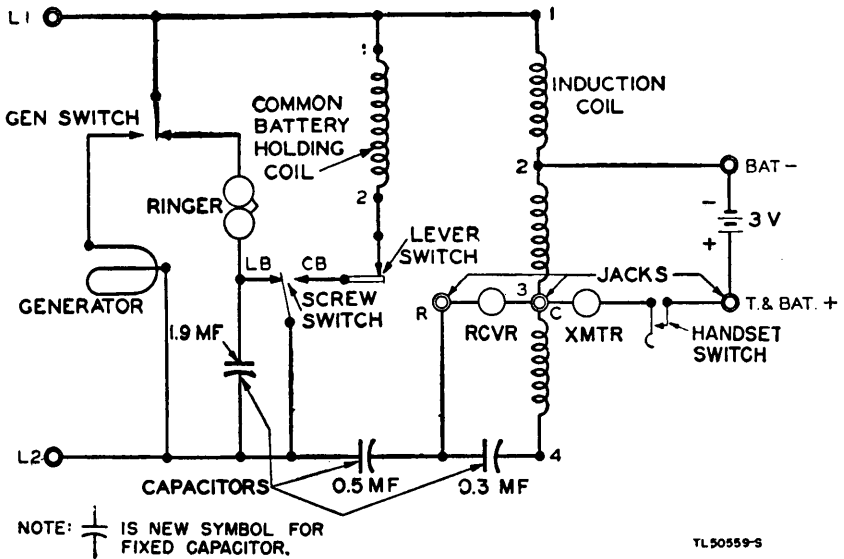
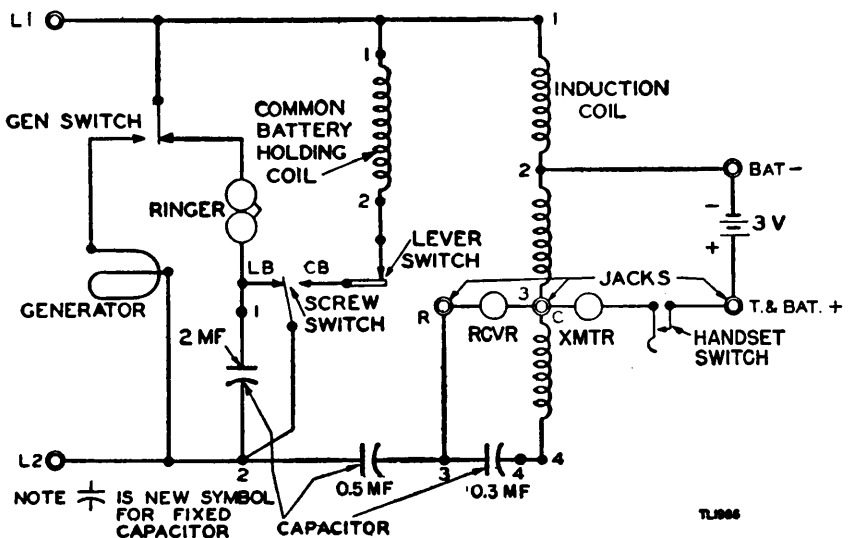

Figure 25. Telephone EE-8—schematic diagram.
Figure 26. Telephones EE-8-A and EE-8-B—schematic diagram.
e. INDUCTION COIL. The induction coil (Coil C-105) is an autotransformer with one continuous winding tapped at terminals 2 and 3 so as to form the 1-2 section, the 2-3 section, and the 3-4 section. (See figs. 25 and 26.)
g. CAPACITORS. In Telephone EE-8, three physically separate capacitors, of 1.9-mf, 0.5-mf, and 0.3-mf capacitance are used. (See figs. 25 and 27.) In Telephones EE-8-A and EE-8-B, Capacitor CA-355 comprises a 2.0-mf, a 0.5-mf, and a 0.3-mf capacitance element, all assembled into one container and internally connected to the terminals numbered 1, 2, 3, and 4. (See figs. 26, 28, and 29.)
The schematic diagram of Telephone EE-8 is shown in figure 25 and the schematic diagram of Telephones EE-8-A and EE-8-B is shown in figure 26.
- (3) Complete schematic diagrams (figs. 25 and 26).
- (4) Voltage and resistance chart (par. 49).